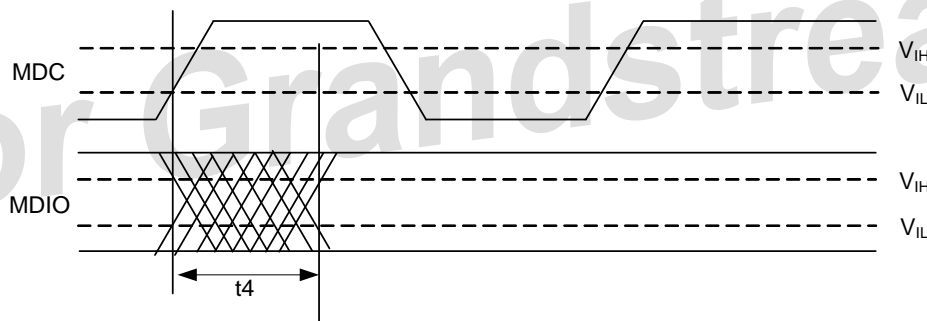

Figure 18. MDIO Sourced by RTL8218D (Slave)
- The timing characteristic  $t_4$  (Figure 18) of the Slave (RTL8218D) are provided by the RTL8218D when the RTL8218D sources the MDIO signal (Read command)